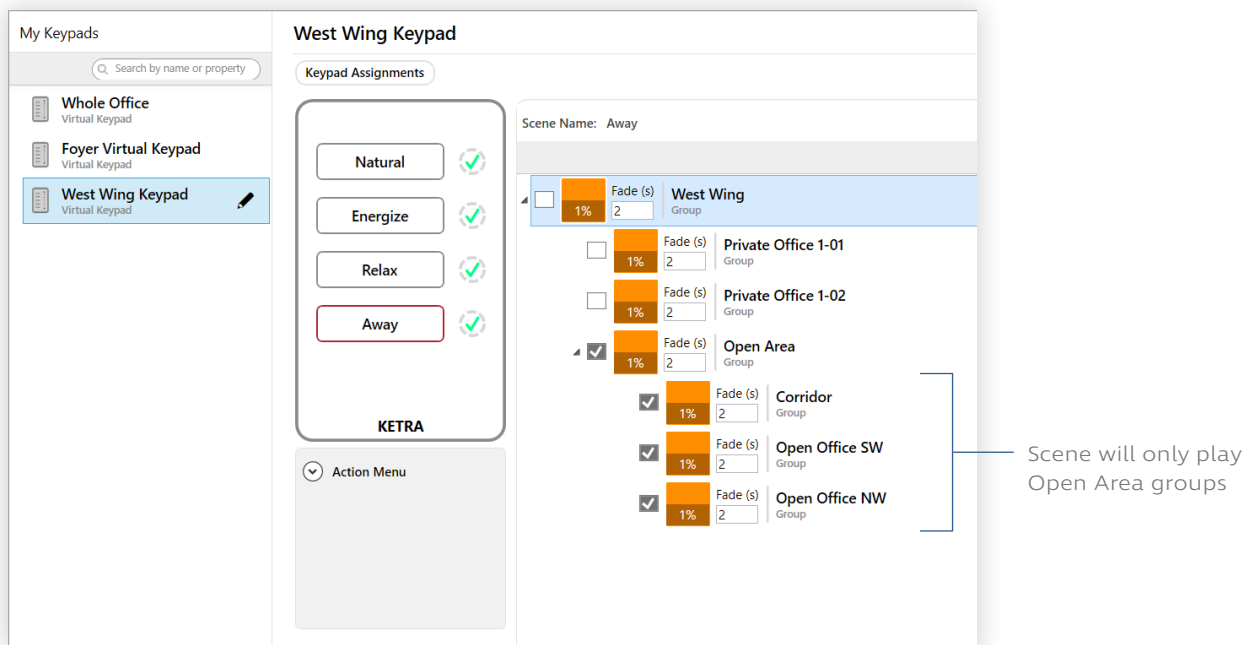

fig. 8
- **Ketra keypad buttons** - Ketra keypads can only control their own part of the grouping hierarchy, i.e., their own groups and subgroups. You can further narrow this by picking which subgroups to apply the scene to whenever a given button is pressed. In fig. 8, pressing the keypad's "Away" button will play the Away scene on the **Open Area** group and its subgroups. Note that the **West Wing** group is not the highest-level group in the installation; the keypad only has a subset of the larger grouping hierarchy.